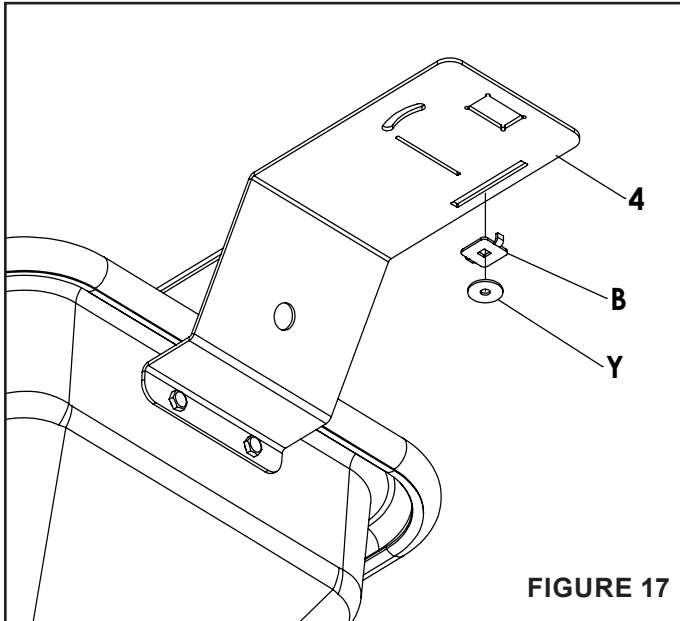

FIGURE 17
STEP 17: (SEE FIGURE 17)
- Hold an adjustable stop (B) into the underside of the straight slot on the control bracket assembly (4) with the ears into the slot.
- Place a washer (Y) onto the adjustable stop (B).